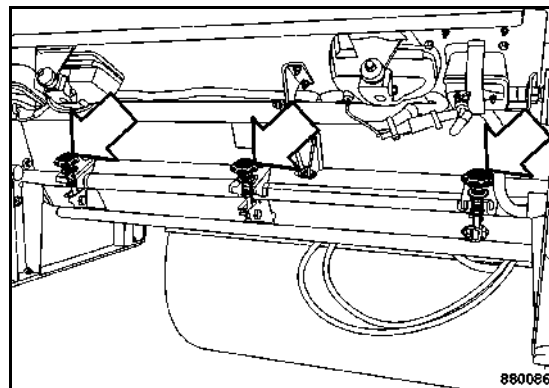

Fig. 97
- Loosen the star knobs (Fig. 97), fold down the spreading screed and allow the chipping to trickle out.